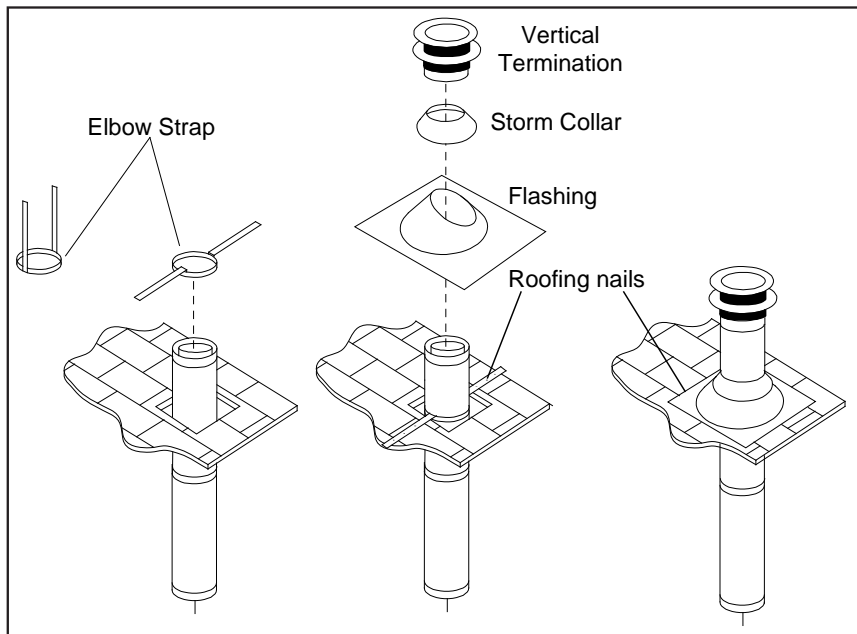

Figure 42. Vertical Vent Termination
- STEP 6.** Once the pipe sections have been joined, and run up through the hole in the roof, slip an elbow strap over the exposed sections, bend the support straps outwards, and push the elbow strap down to the roof level, as shown in Figure 42. Tighten the clamp around the pipe section. Use a level to make sure the pipe is truly vertical. With roofing nails, secure the support straps to the roof. Seal the nails holes heads with non-hardening mastic. Trim the excess length of the support straps that extend out beyond the edge of the flashing.
- STEP 9.** Slip the storm collar over the pipe, and push it down to the top of the roof flashing as shown in Figure 42. Use the non-hardening sealant around the joint between the pipe and the storm collar.